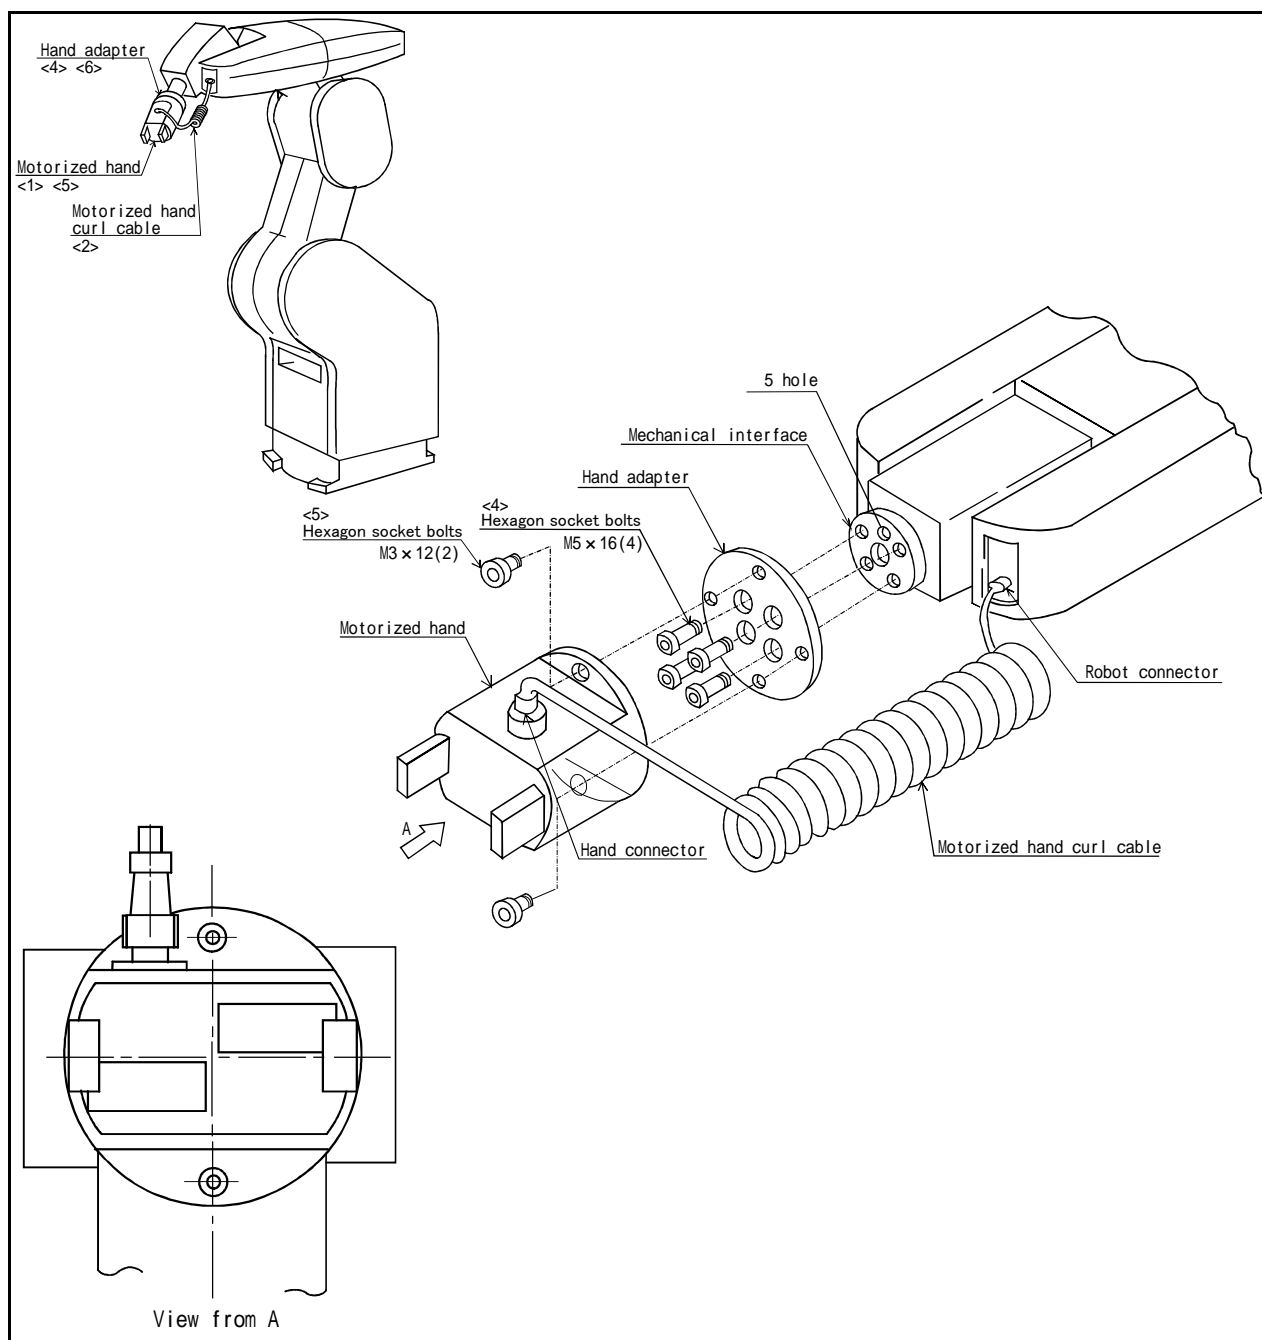

Fig.3-4 : Motorized hand set installation procedures
Fig. 3-4 shows the construction of the motorized hand set and the installation procedure and Table 3-5 shows the configuration equipment which correspond with the Fig. 3-4.
Fig. 3-4 shows how to install the motorized hand.
Make sure that the position of the hand connector of the motorized hand and the position of the hand adapter are the same as that shown in Fig. 3-4.
- 3) Once the hand has been installed, securely attach the hand curl cable to the hand's connector and to the robot's connector, as shown in Fig. 3-4.
**CAUTION** While operating the hand, depending on the J5 axis and J6 axis, the hand curl-tube and the hand check cable can get entangled with the hand adapter and forearm. In this case, temporarily remove the hand, and reposition it to its correctly installed position, as shown in Fig. 3-4.